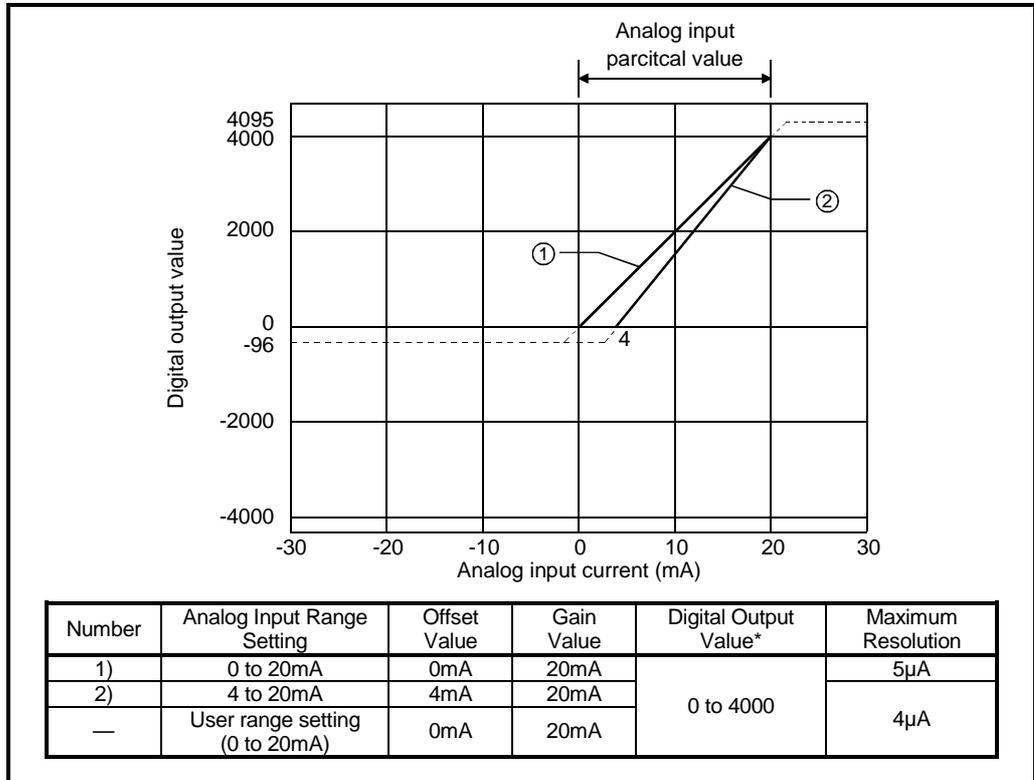

Fig. 3.2 Current Input Characteristic of the AJ65VBTCU-68ADI
<p>(1) Do not input more than ±30mA. A breakdown may result due to heat increase.</p> <p>(2) If the analog input provided corresponds to the digital output value* beyond its range, the digital output value is fixed to the maximum or minimum. • For 0 to 4000, the digital output value is within the range -96 to 4095.</p> <p>(3) Within the analog input and digital output scopes of each input range, the maximum resolution and accuracy are within the performance specification range. Outside those scopes, however, they may not fall within the performance specification range. (Avoid using the dotted line part in Fig. 3.2.)</p> <p>(4) Set the offset and gain values of the user range setting within the range satisfying the following conditions. (a) Setting range when user range setting is selected: 0 to 20mA (b) (Gain value) > (Offset value)</p> <p>If you attempt to make setting outside the setting range of (a), the "RUN" LED flickers at 0.5s intervals. Set the values within the setting range.</p> <p>If you attempt to make setting outside the setting range of (b), the "RUN" LED flickers at 0.5s intervals. Make setting again.</p>